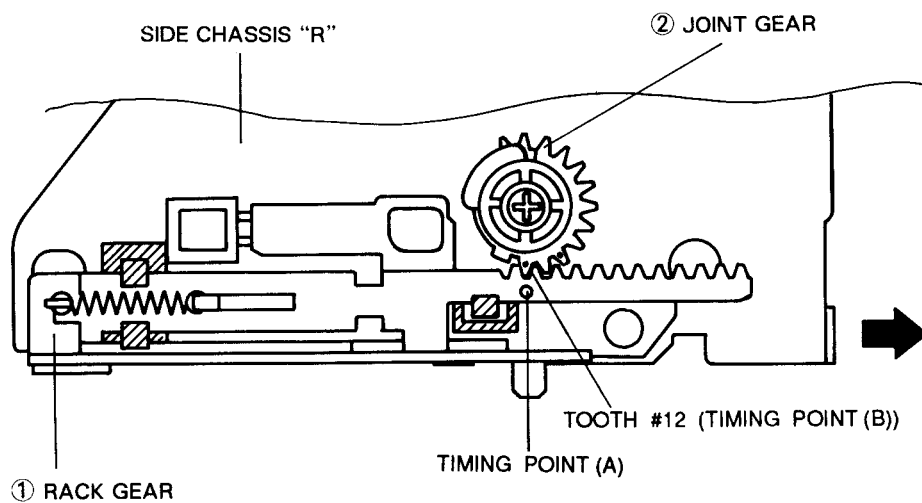

Fig. 9 Timing Confirmation of Rack Gear and Joint Gear
3. Push the rack gear ① in the direction of arrow to the end.
4. Make sure that the tooth #12 (Timing Point (B)) of joint gear ② and the Timing Point (A) of rack gear ① are aligned correctly as shown in Fig. 9.